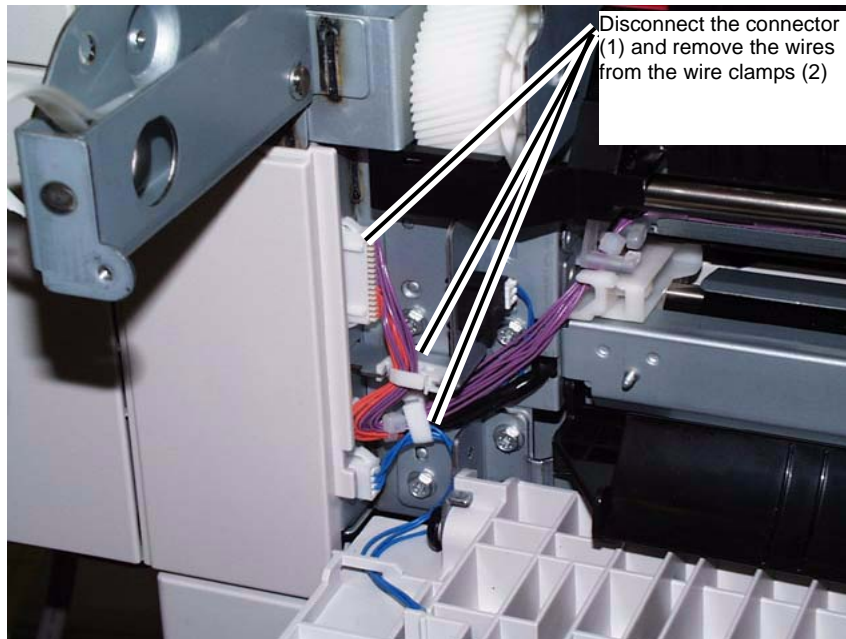

Figure 1 Disconnecting the connector
6. Disconnect the connector (1) and remove the wires from the wire clamps (2). (Figure 1)